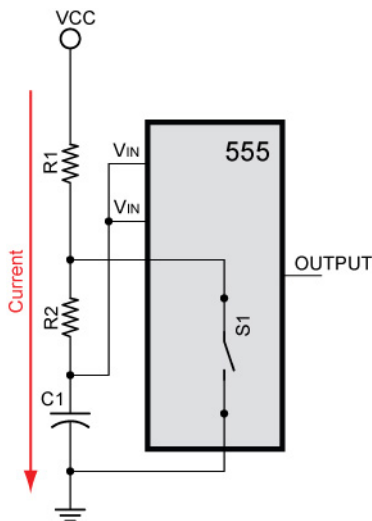

Figure 1, C1 Charging Through R1 & R2
- In Figure 1, C1 charges through R1 and R2 and the 555 timer acts as an open switch (Figure 1).